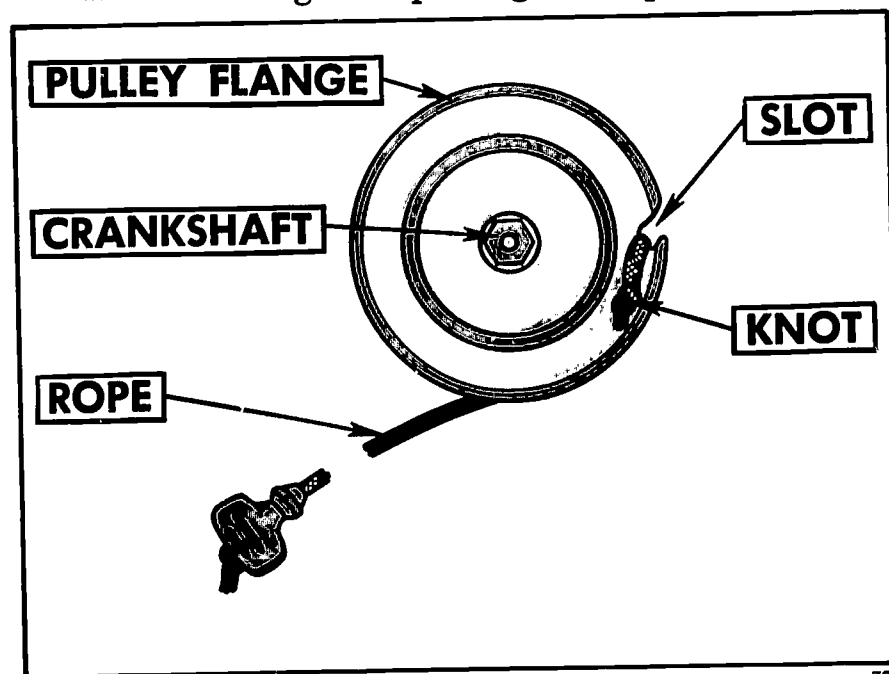

FIGURE 10. Starting rope and pulley. Slanted slot in the pulley flange is for engaging the rope during cranking and for disengaging it after the engine starts.
- Rope-wind (Figure 10).
One end of the rope is knotted and is engaged in a slot in the pulley flange for cranking. The slot is slanted away from the direction of rotation (Figure 10). When the engine starts, the rope is released.